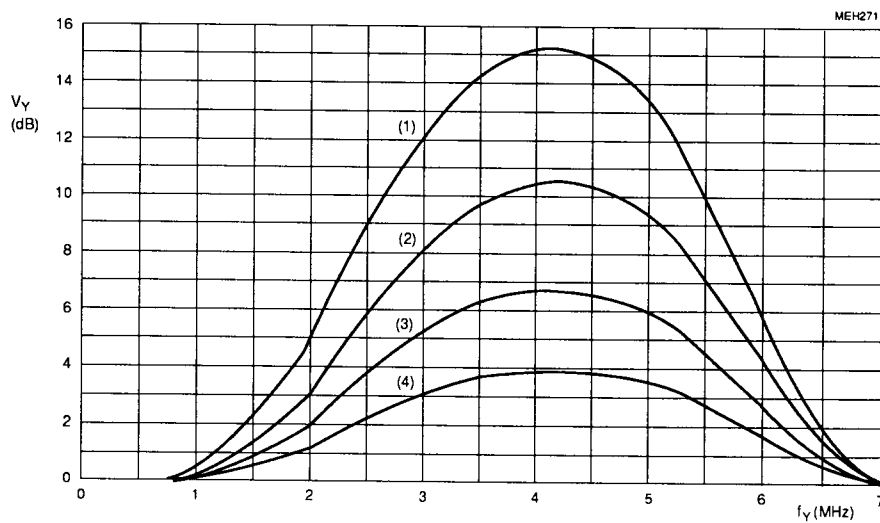

Fig.5 Peaking frequency response with I²C-bus control bits BP1 = 0; BP0 = 0 and BFB = 0:
1. YUV-bus data is read at MC = HIGH (pin 24) clocked with LLC (Fig.5) . Data is read only with every second rising edge of LLC when CREF = LLC/2 on MC-pin 24.